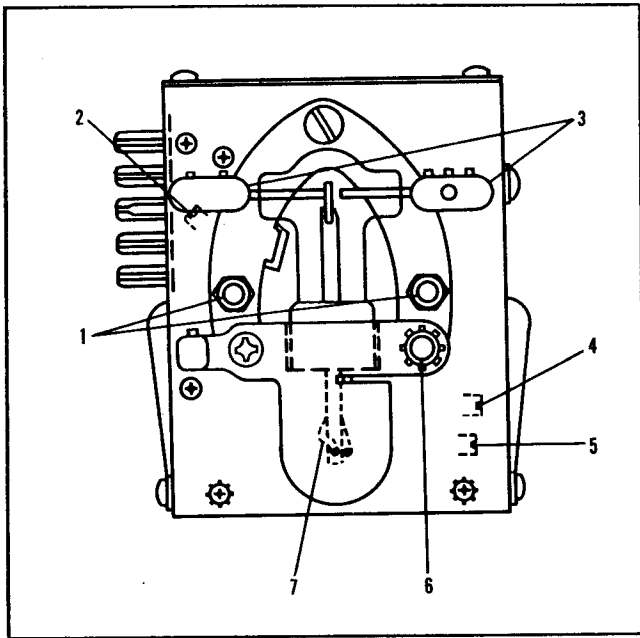

Figure 5-11. Keying Relay K102 and Vacuum Contact S116
(1) Loosen the setscrews that hold the connecting wires to the fixed contact terminals (No. 3 in fig. 5-11), and remove the wire connector.
(2) Loosen the stud (No. 6 in fig. 5-11) until the clamp around the base of the vacuum contact becomes loose enough to allow the removal of the glass vacuum tube. Remove the tube containing the switch by pulling glass tube straight up.
(3) Note the split collar on end of glass operating arm that connects vacuum contact to relay case. Loosen setscrew in this collar so that collar is loose on its shaft.
(4) Before attempting to install the new vacuum switch, note the manner in which the movable switch arm (extending out of bottom of glass bulb) engages the wire actuating arm (No. 7 in fig. 5-11). When installing the new switch, the arm of the switch must be securely engaged between the two wires that form the actuating arm (No. 7 in fig. 5-11). To prevent damage to the new switch, it is recommended that the two wires forming the actuating arm, be spread apart very slightly while the vacuum switch arm is being engaged. This may be accomplished by using a screw driver blade to spread the wires approximately $1/32$ ".
(5) Place rubber gasket in position and insert new vacuum switch in socket. Be sure movable switch arm is securely engaged in wires of operating arm No. 7.
(6) Retighten stud (No. 6 in fig. 5-11) and reconnect wires to terminals labelled No. 3 in figure 5-11.
(7) With relay in normal unoperated position, the vacuum contact (in glass bulb) should be closed and resting firmly against the fixed contact that is connected to RECEIVER terminal of transmitter. To se-
(8) The timing adjustment of the vacuum contact can now be made. Remove top cover of keying relay case by taking out two Phillips screws on the top surface.
(9) Examine the interior of the relay and note double row of contacts near top. Also note that movable contact arms are all attached to a thick bakelite plate located in the center of the case. By using a thin tool, with a notch in one end, that is capable of straddling this bakelite plate, it is possible to grip the bakelite and operate the relay mechanically by pushing the plate from side to side. Note that as this bakelite plate is moved, all movable contact arms in the relay as well as the movable arm in the vacuum contact will also move.
(10) With the relay in the normal "rest position," three internal relay contacts, on the side nearest the plug, are closed and the vacuum contacts (in external glass bulb) should now be resting firmly against the fixed contact that connects to the RECEIVER terminal on the side of transmitter case.
(11) If vacuum contact is not set properly, loosen two studs (labelled No. 1 in fig. 5-11) that hold horseshoe shaped yoke to relay case.
(12) Note adjustment screw (labelled No. 2 in fig. 5-11) that can be seen through hole on plug side of case. By rotating this screw, the position of the movable arm in the vacuum contact can be adjusted as desired.
(13) After vacuum contact has been adjusted to correct position while relay is in rest position, the relay should then be operated mechanically (as described in step No. 9) and the action of the vacuum contact and the 5 normally open contacts on the interior of the relay case should be noted.
(14) As the relay is operated mechanically, the correct sequence of contact make and break is as follows:
(15) If above sequence is not obtained, further adjustments of screw labelled No. 2, in figure 5-11 is
(16) After adjustment has been completed, re-tighten two screws labelled No. 1 in figure 5-11.